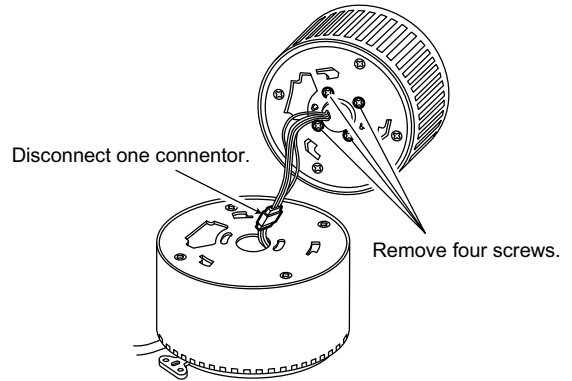

Fig. 2-3
- Referring to Fig. 2-3, disconnect one connector, remove four screws that secure the Lower Diecast Case and remove the Lower Diecast Case.